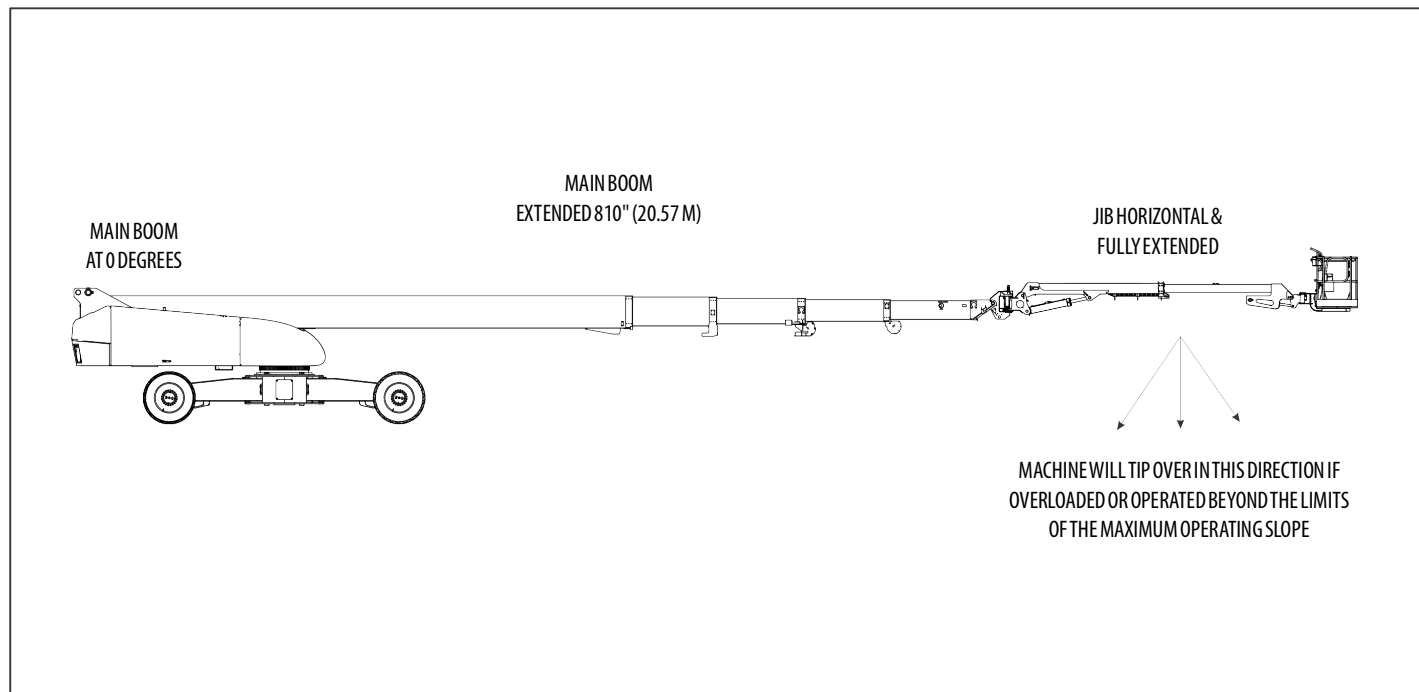
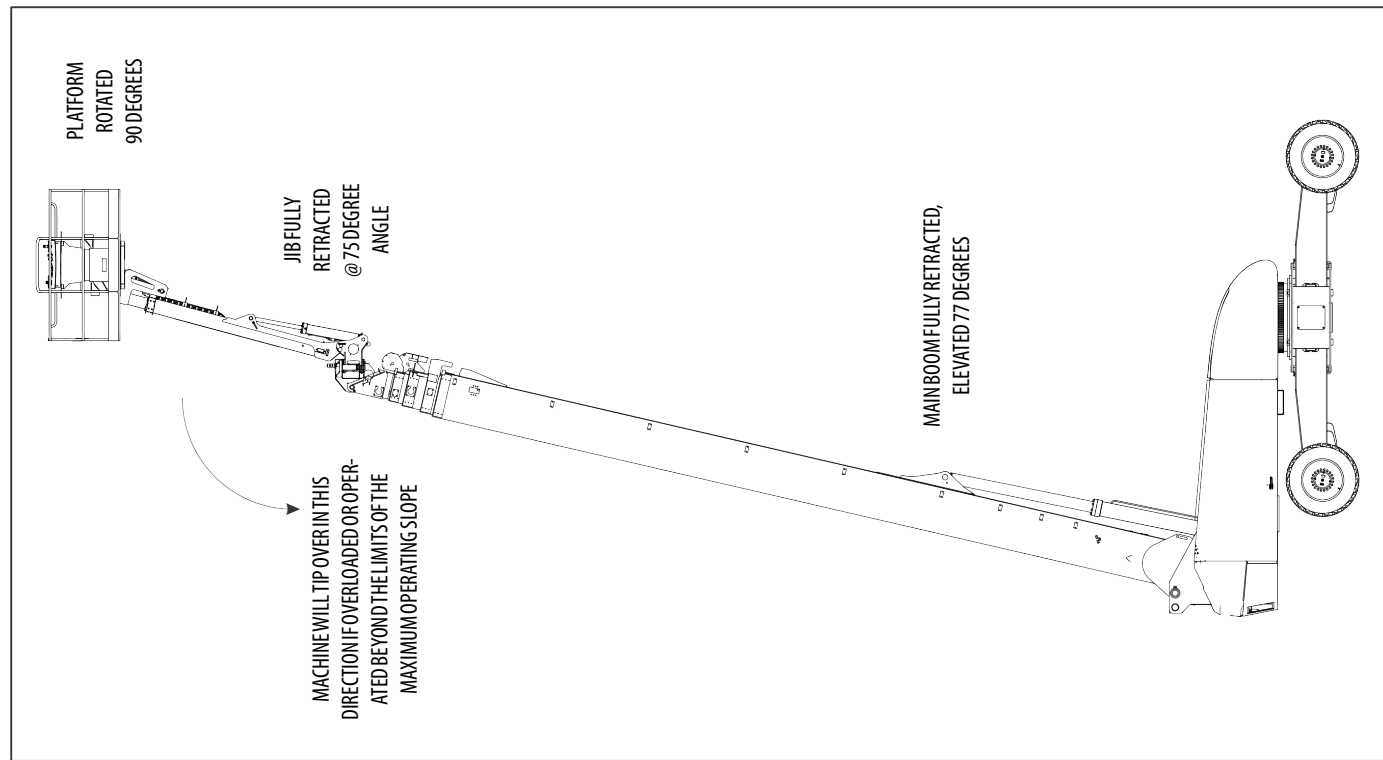

Figure 4-1. Position of Least Forward Stability
Figure 4-2. Position of Least Backward Stability
Machine stability is based on two (2) conditions which are called FORWARD and BACKWARD stability. The machine's position of least FORWARD stability is shown in Figure 4-1., and its position of least BACKWARD stability is shown in Figure 4-2.